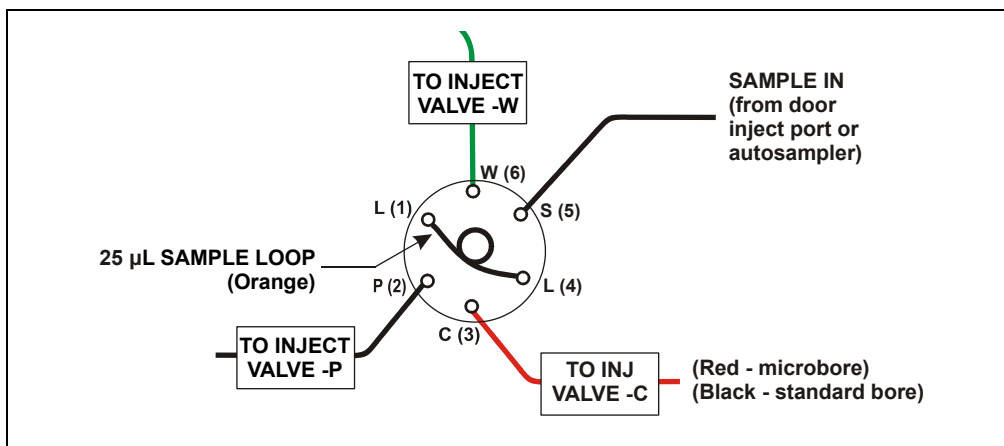

Figure 9-45. Injection Valve Plumbing (6-Port Valve)
6. Reconnect all liquid lines to the injection valve (see Figure 9-45).